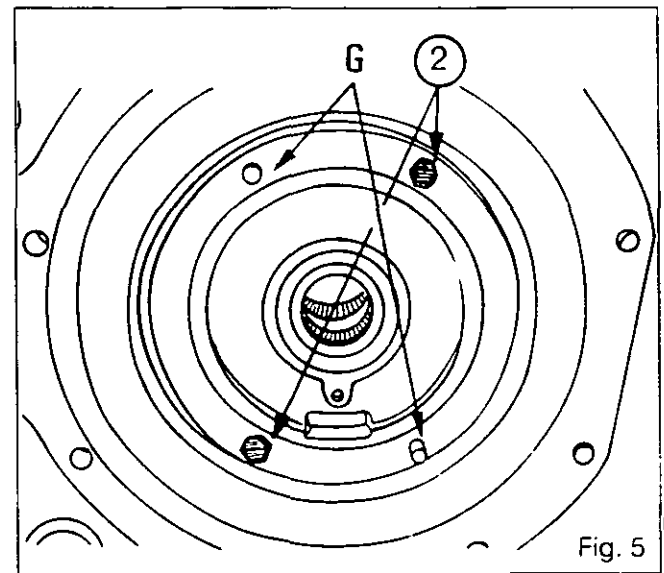

Fig. 5
15. Fit the O-ring (1).
16. Screw in two guide studs «G» diagonally opposite on the housing (Fig. 5).
17. Refit the spring (6), the sliding coupler (7), the thrust washer (11) and the carrier (9).
18. Fit and tighten two screws (2) to a torque of 85 - 130 Nm. Remove the guide studs. Fit and tighten the two other screws to the same torque (Fig. 5).